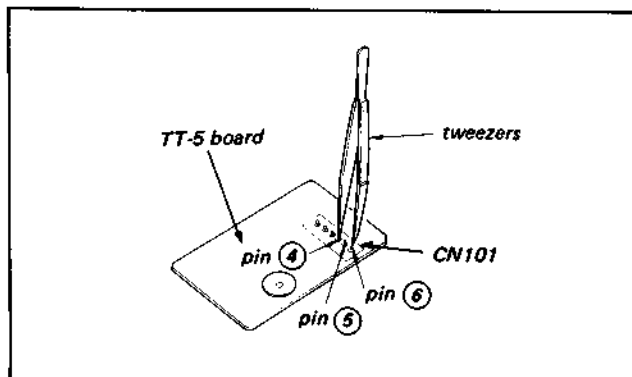

Fig. 1-6b. Operation without cassette
- (i) The front loading (cassette lift) assembly begins to drop when the TT-5 board CN101 pin ④ and pin ⑥ are shorted with tweezers. (See Fig. 1-6b)
- (ii) With the front loading assembly completely lowered, short the TT-5 board CN101 pin ⑤ and ⑥ until threading ring rotation stops.